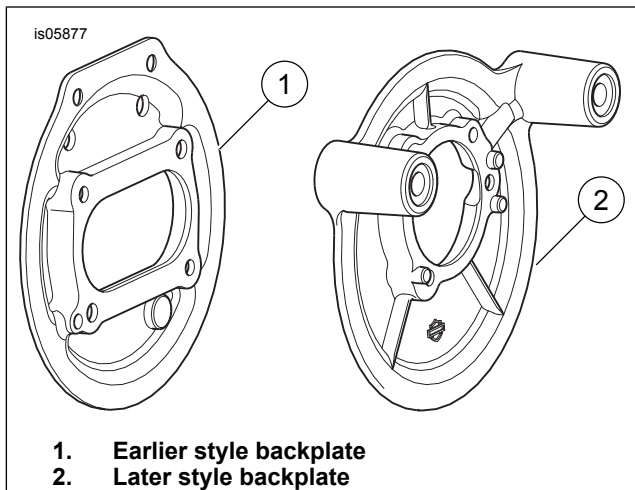
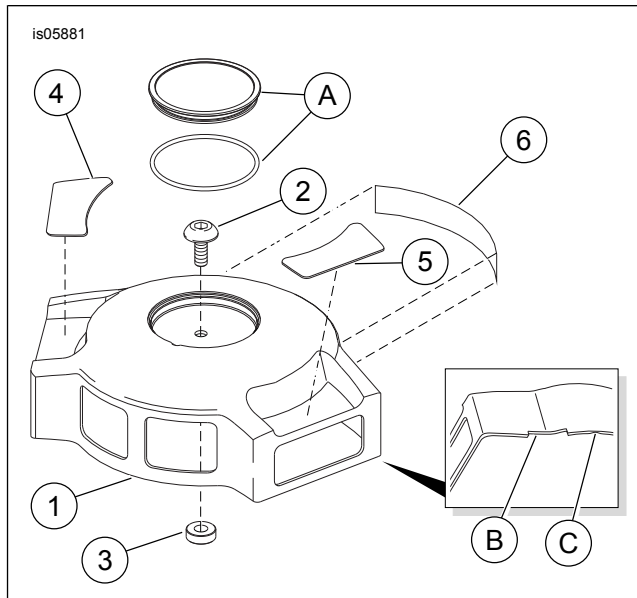

Figure 1. Air Cleaner Backplate Identification
Figure 4. Service Parts: Billet Air Cleaner Cover Kit
See Figure 1.
See Figure 4 and Table 1.
See Figure 1. Earlier style backplates (1) have two small mounting ears, which fit into shallow grooves (Figure 4, item C) in the air cleaner cover from either kit. Later style backplates (2) have two larger mounting bosses (Figure 4, item B), which fit into notches found only in the cover from Kit 29745-00A.